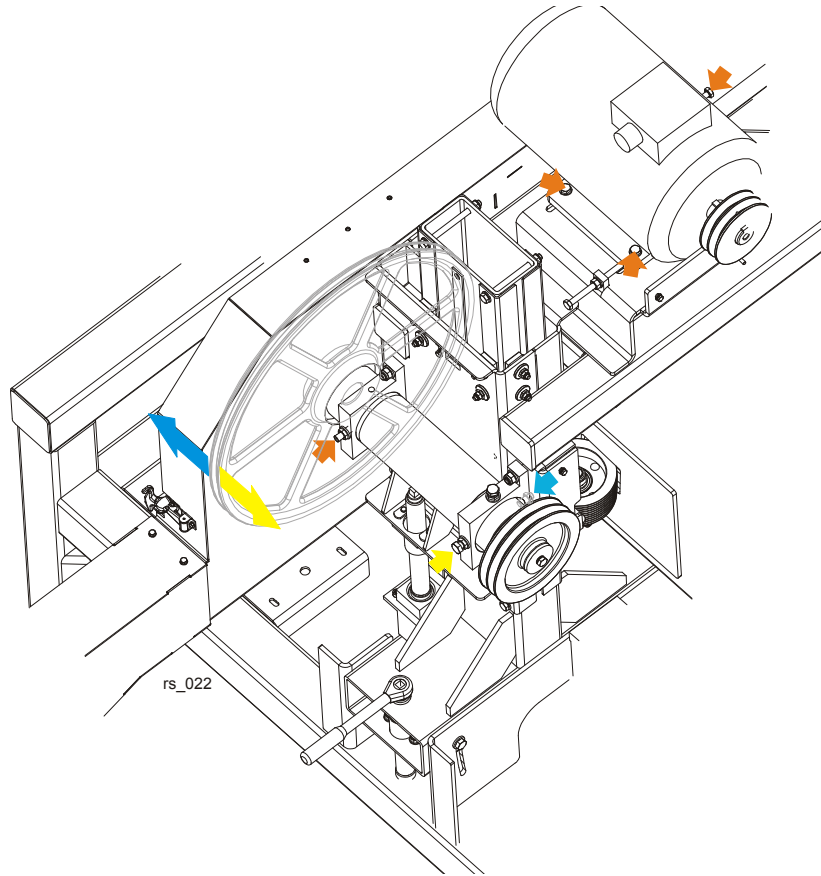

FIG. 4-8
**See Figure 4-8.** Use the horizontal adjustment screws (marked with the blue and yellow arrows in the figure below) to adjust the drive-side blade wheel. Before adjusting the wheel, loosen the drive belt using the adjustment bolts marked with the orange arrows in the figure.